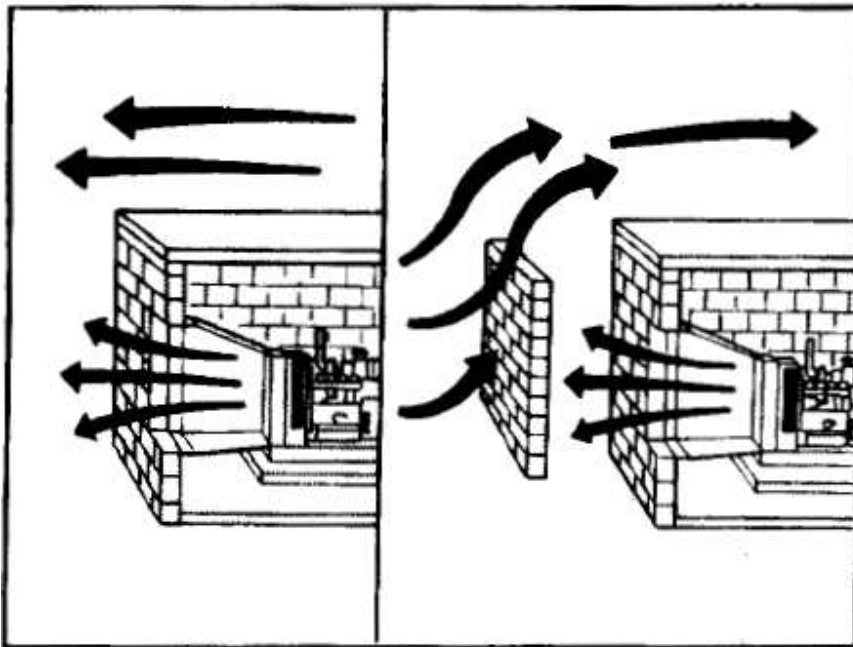

figure 4-1
- Position the generator set so that the prevailing wind do not enter into the radiator / exhaust outlet. If this is not possible, install a wind barrier. Distance of the wind barrier from the room should be at least three times radiator core height. (figure 4-1)